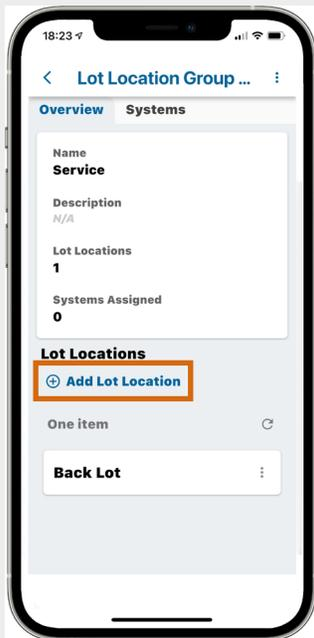
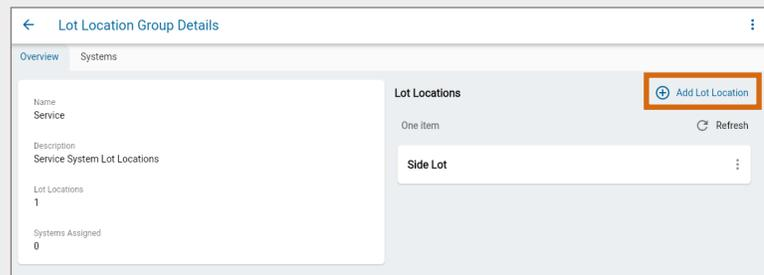

Fig. 242 – Lot Location Details Group screen (KEYper GO)
Fig. 243 – Lot Location Details Group screen (KEYper GO Web)
4. On the **Lot Location Group Details** screen, select **Add Lot Location**, as shown in Fig. 242 and Fig. 243.